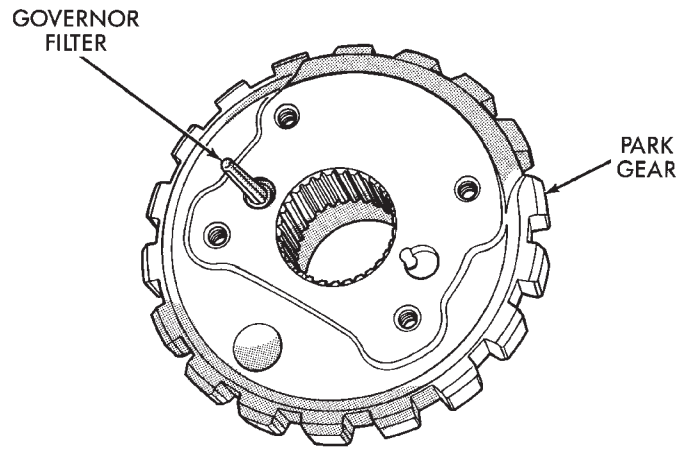

Fig. 39 Governor Filter Position
(1) Remove bolts attaching governor body to park gear; then separate body from gear.
(2) Remove cone shaped filter from park gear (Fig. 39).
(3) Insert filter screen in park gear. Note that gear has one filter bore that is concentric and one that has a notch in it. Filter goes in bore that is concentric as shown (Fig. 39).
(4) Position governor body on park gear. Be sure filter is properly aligned in body recess.
(5) Install governor-to-park gear bolts snug but not to required torque at this time.